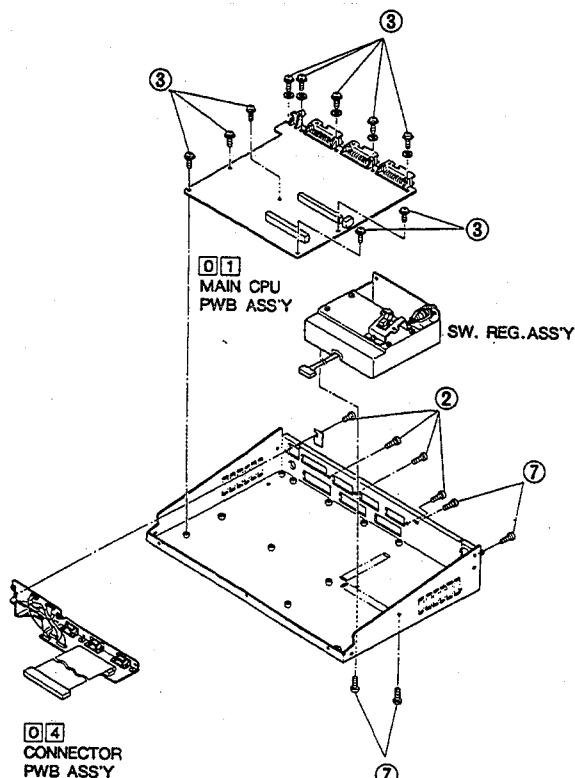

Fig. 1-2
Remove 4 screws ⑦. Refer to Fig. 1-2.